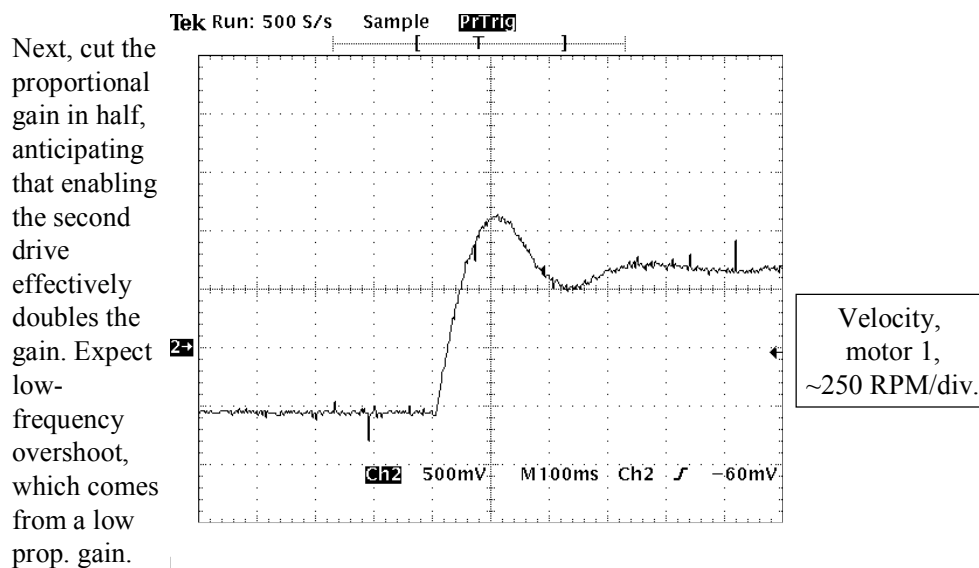

Figure 11: Before Enabling The Second Drive, Cut The Proportional Gain In Half
- Half the proportional gain (GV). The gain of the servo loop naturally doubles when you enable the other drive. This is because once the drive is enabled it takes half the load, making the system appear only about half as difficult to move. This effectively doubles the servo gain. When the proportional gain is cut in half, the system slows down and overshoots more, as shown in Figure 11.